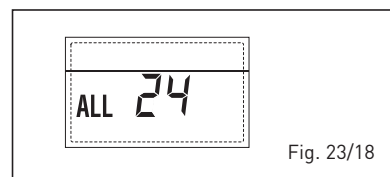

Fig. 23/18
- **SOLAR PROBE ANOMALY STORAGE TANK (S2) “ALL 25” (fig. 23/19)**